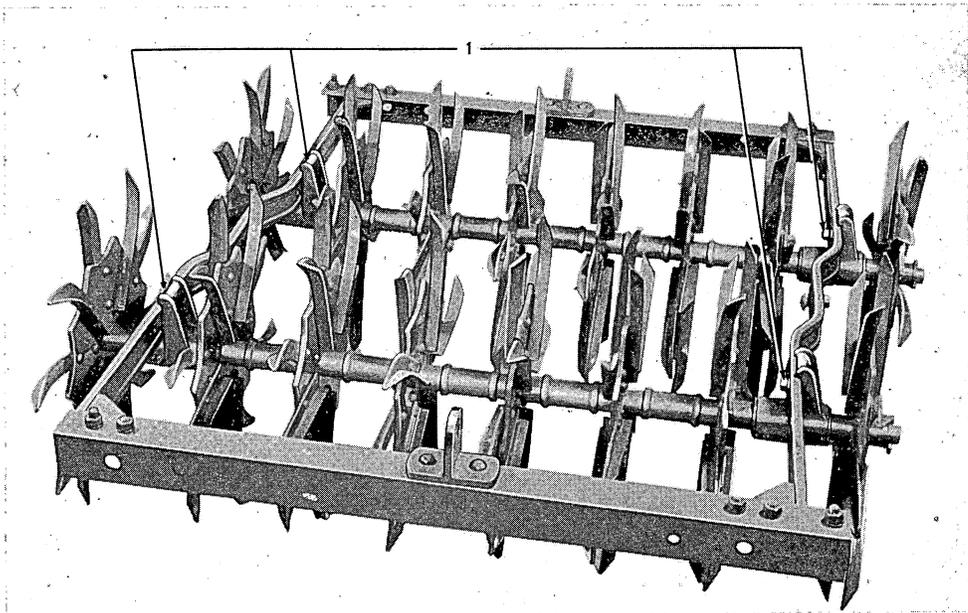

Fig. 4-B
- 4. Bolt the weight box supports to the front and rear of the section at points 1. Fig. 4-C.